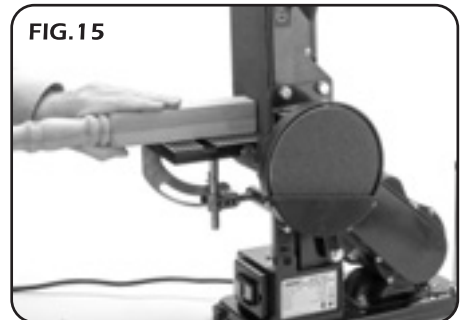

FIG.15
9.3 END SANDING ON THE SANDING BELT - FIG. 15